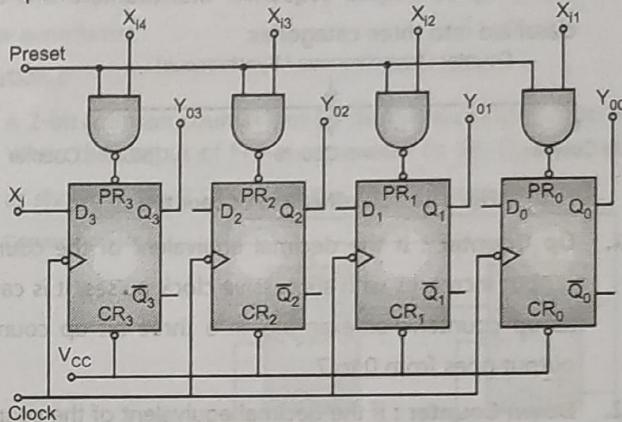

Fig. 3.47
- The universal shift register operates in all possible four modes (SISO, SIPO, PISO, PIPO) and also as bi-directional shift registers. Logic diagram of four-bit shift register operates in all four modes as shown in Fig. 3.47.